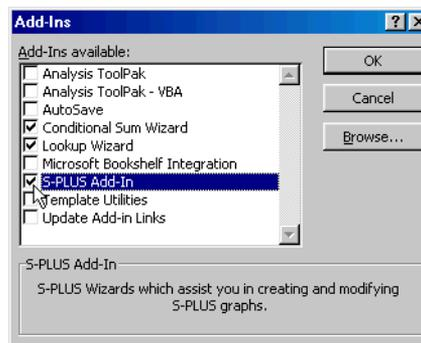

Figure 10.10: *The Add-Ins dialog in Excel with the S-PLUS Add-In checked.*
4. In the **Add-Ins** dialog, select the **S-PLUS Add-In** check box, as shown in Figure 10.10, and click **OK**.
4. In the **Add-Ins** dialog, clear the **S-PLUS Add-In** check box (see Figure 10.10.) and click **OK**.